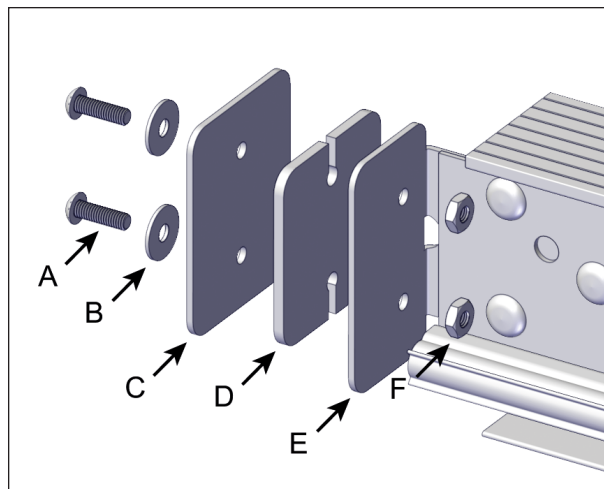

FIGURE 22: I-BEAM WITH THE SHORT I TO C CONNECTION PLATE INSTALLATION
4. Use no. 10-32 x 5/8" screws and no. 10-32 nuts. Insert the I to C spacer in between the I to C connection plate and the bracket. The screws and nuts can now be properly tightened, see Figure 22.